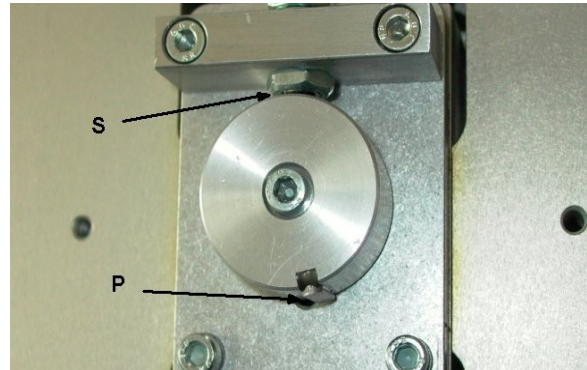

Fig. 2.17
- Put a thin metal plate (piece of an old plate) between the bully and the sensor (see Fig. 2.17 detail 'S'). The motor must stop. Don't switch off the Puma.
For this test the Puma must be switched on. To check the sensor move a thin metal plate between the bully and the sensor. The light in the sensor must burn. (Fig. 2.17)